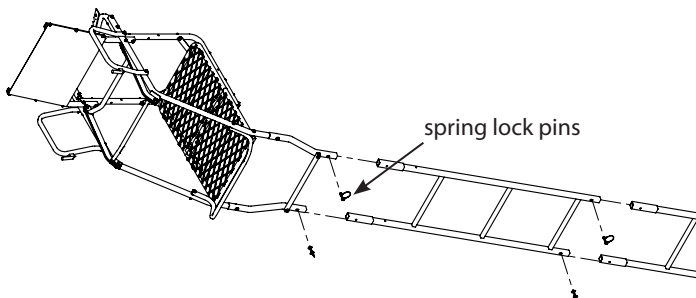

Figure 19
16. With all sections assembled together on ground, secure all sections together using (6) provided spring lock pins. Handle of spring lock pin must be put to the outside of ladder side rails. **SEE FIGURE 19.**